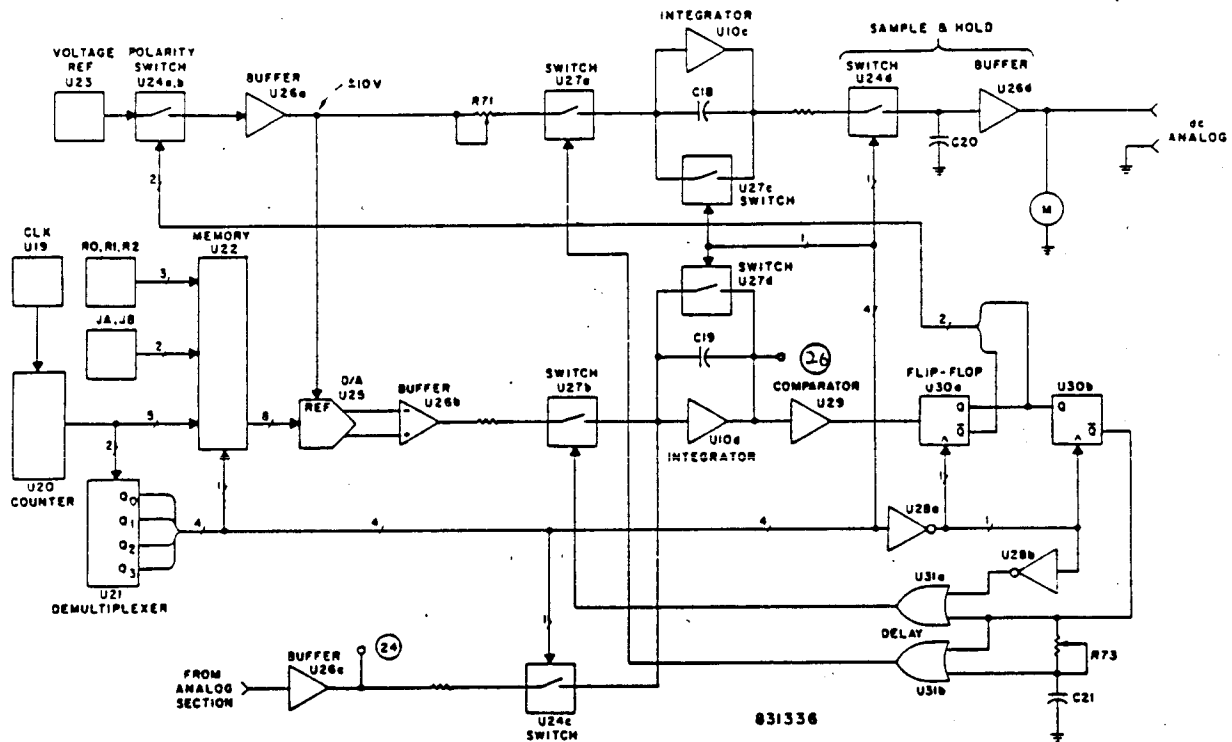

Figure 4-5. Shaping Circuits Block Diagram.
**4-18. CLOCK CIRCUITS.** Refer to Figure 4-5. A crystal controlled oscillator (A2U19a, b, c, and crystal Y1), provides 96 kHz clock pulses. This 96 kHz square wave is frequency divided in the binary counter A2U20 to produce clock signals for both the analog and the shaping circuitry.
4-22. Shaping is achieved in four phases. Phase 0 integrates the input signal. Phase 1 combines the input with the shaping data. Phase 2 samples and holds the shaped and corrected output. Phase 3 resets the circuit for another cycle. The phases are controlled by the output of demultiplexer A2U21. Refer to Figure 4-5.